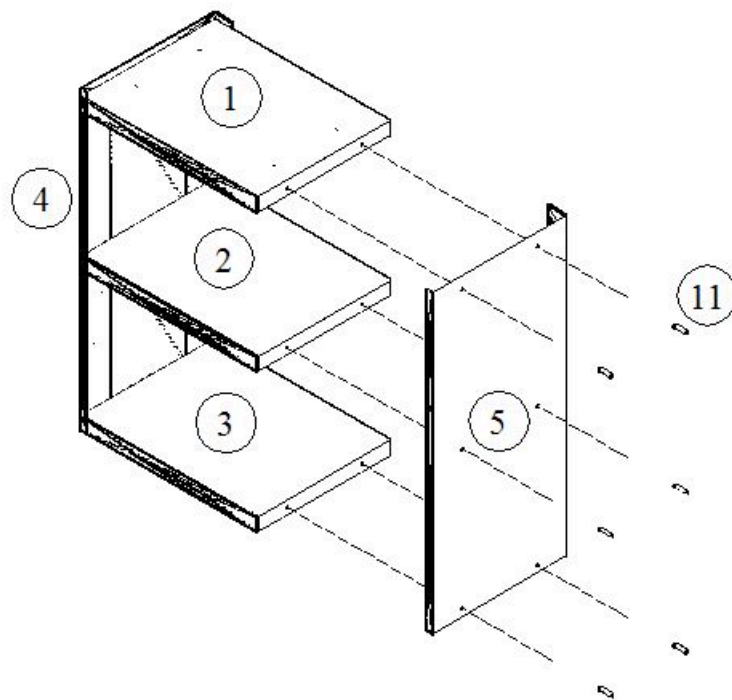

Figure 4
Attach the right side panel (5) to the top shelf (1), middle shelf (2) and bottom shelf (3) using another 6 of the enclosed sheet metal screws (11). As shown in Figure 4.